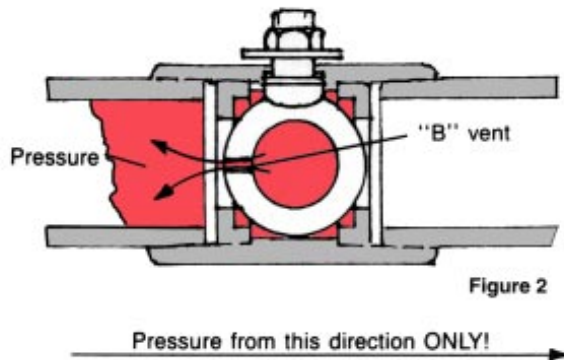

Figure 2
3. Provide a relief hole in the upstream side of the valve ball. This is effective whether the heat is applied externally or internally. However, care must be taken to make sure that the hole is on the upstream side; if the vent hole is turned toward the downstream side the valve may leak. For this reason 'B' vents should only be used where absolutely necessary (Figure 2.)